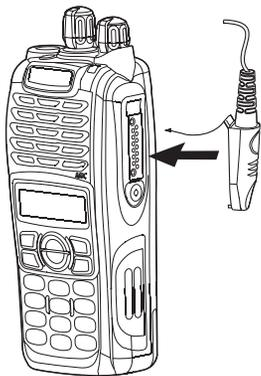

Fig.7
3. Rotate the screw clockwise to fasten. See Figure 7.